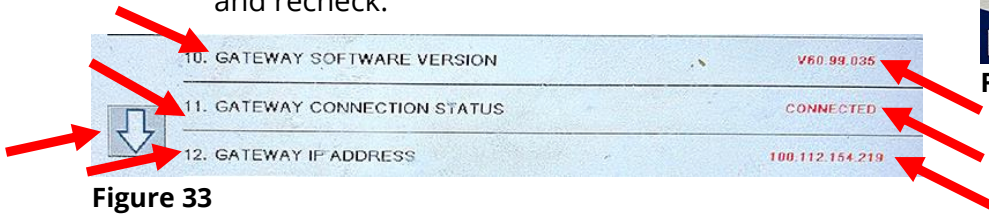

Figure 33
7. The **GATEWAY CONNECTION STATUS** should be **CONNECTED** (see Figure 33). If not, wait 5 minutes and recheck.
8. The **GATEWAY IP ADDRESS** is shown. The **GATEWAY SOFTWARE IP ADDRESS** should have some numbers that are **NOT ALL ZEROS** (see Figure 33). **NOTE: The IP address WILL be different than shown (see Figure 33).** If only zeros are shown, power cycle the entire fryer battery and wait 5-10 minutes before checking the software version and IP address again. **NOTE: An IP address should NOT start with 4 or 82.** If so, then it is **NOT** connected. If is not connected, repeat steps 1-7 of this section. If after two tries of loading the software and the version above is **NOT** displayed, go to STEP 5 (Troubleshooting) below.